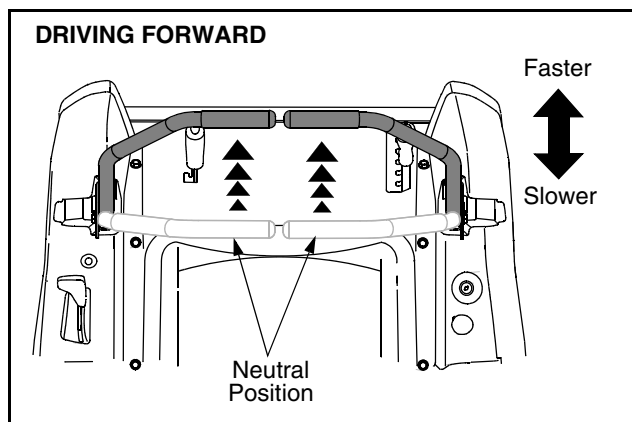

Figure 11
- Slowly and evenly move both drive control levers forward. The tractor will start to move forward. See Figure 11.